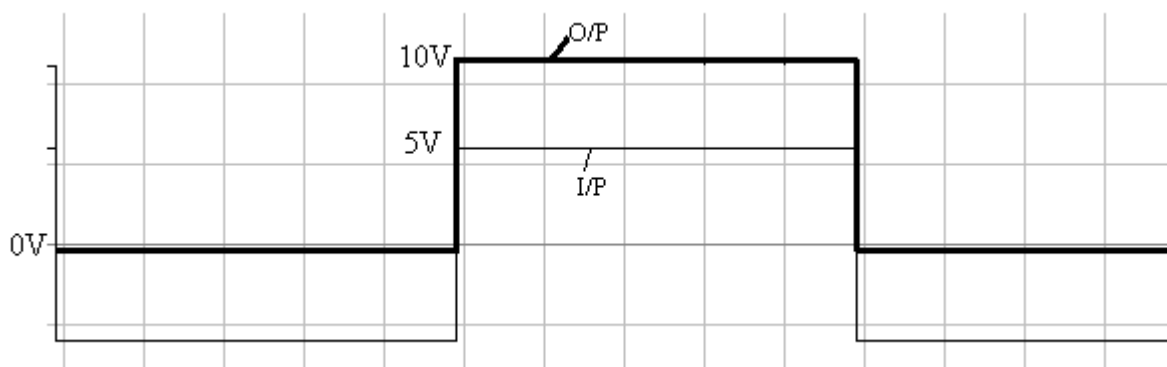

Fig. 6 Input and output waveform for positive clamper without reference voltage.
4. Observe the clamped output waveform on CRO which is as shown in Fig. 6.